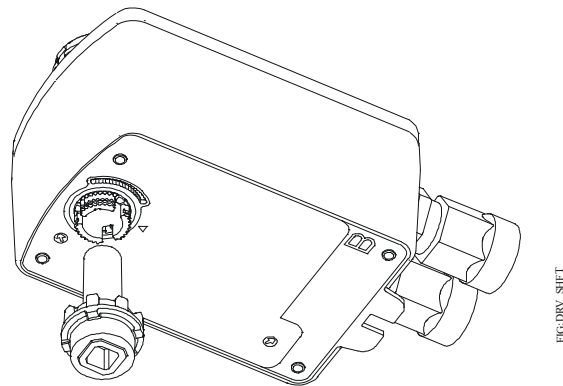

Figure 6: Inserting the drive shaft
4. Insert the drive shaft into Side B (Figure 6). The drive shaft is keyed for one-way assembly. With gentle pressure applied, rotate the drive shaft until the key aligns and the drive shaft falls into place.